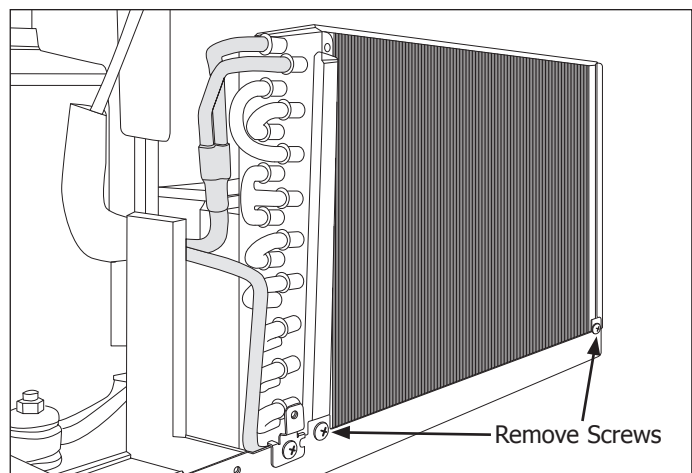

**Figure 4-104.**
8. Extract the two screws securing the bottom of the condenser to the unit base. (See Figure 4-104)